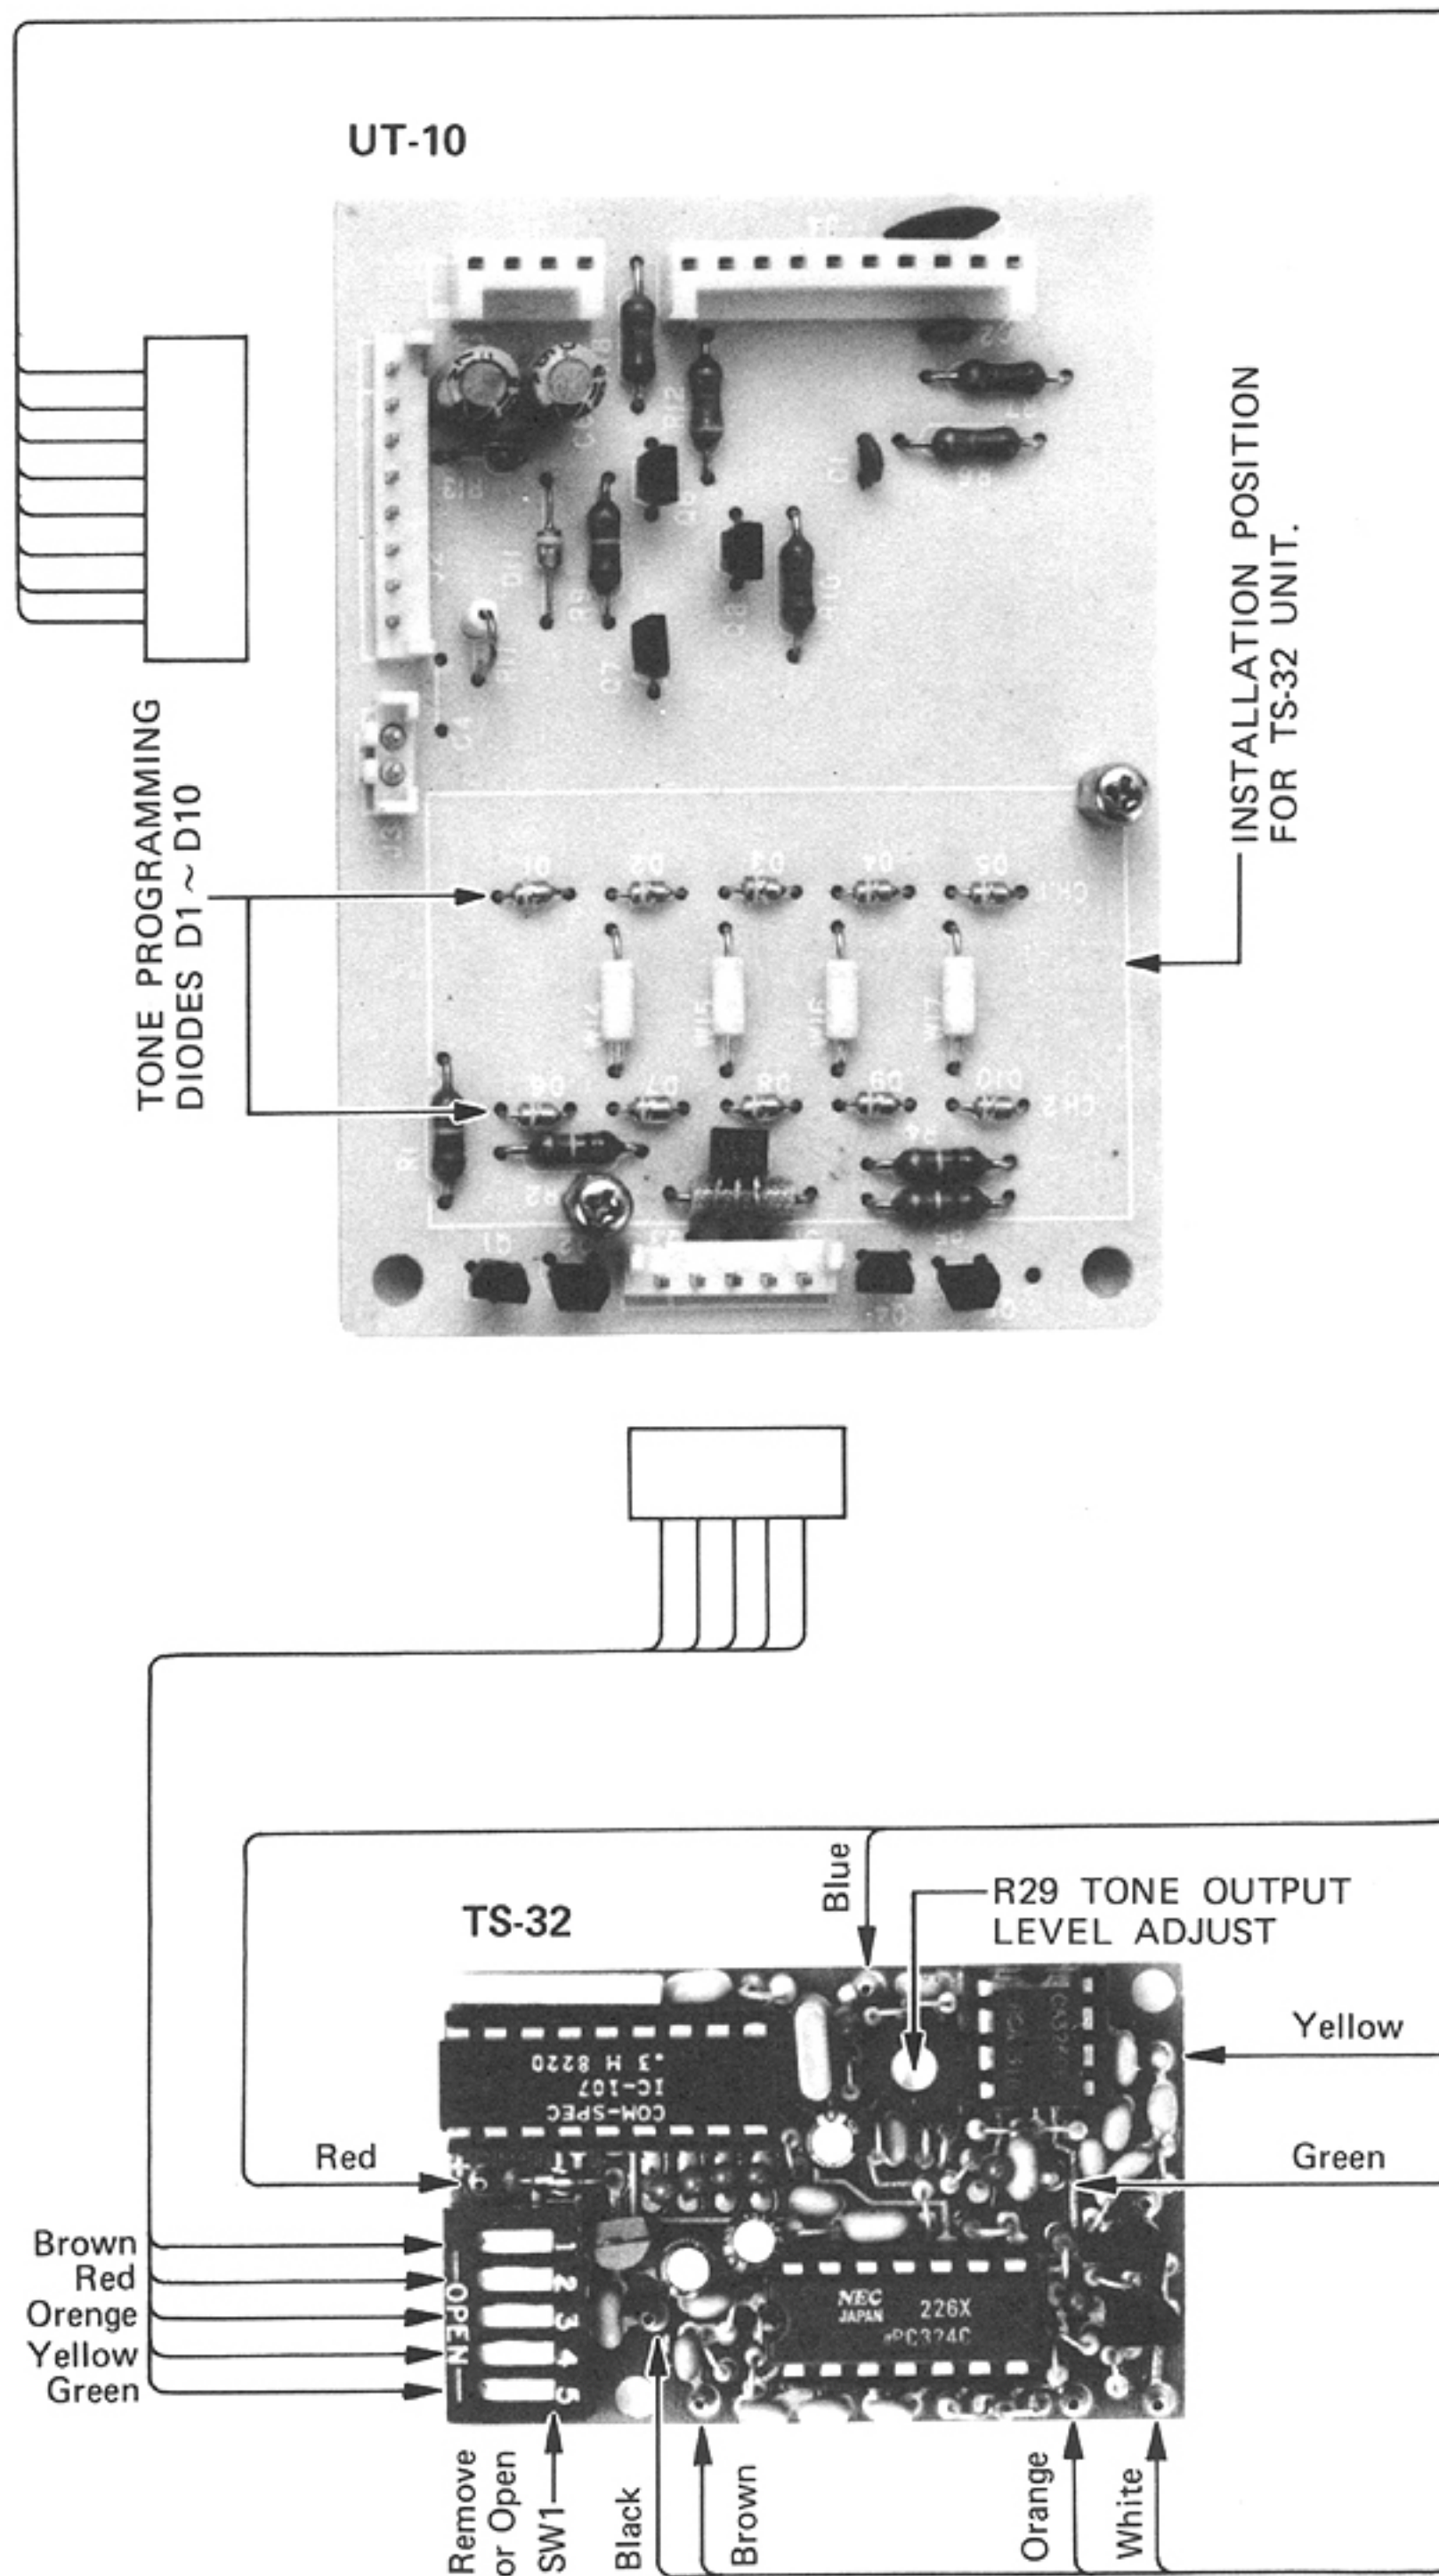

Fig. 3
2. Before installing the UT-10, make sure that each tone is properly programmed using the appropriate diode matrix (see Fig 2). Programming is shown in Fig. 3. Boards are supplied fully programmed so remove diodes to program.